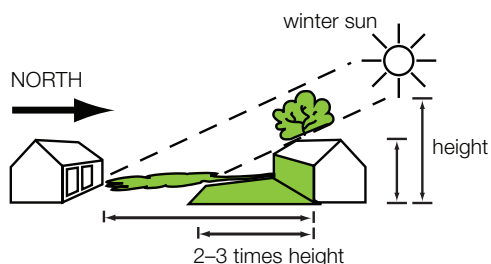

Figure 4: Objects cast shadows two to three times their height in winter
- > Keep north-facing walls and windows well back from large obstructions to the north (such as buildings, trees or fences) as they cast shadows two to three times their height in mid winter. A distance of at least 5.5 m from a single-storey obstruction to the north, or at least ten metres from a double-storey obstruction, is recommended (see Figures 4 and 5).